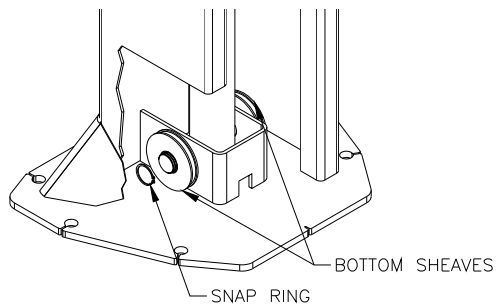

Fig 6-Lower Sheaves
- 17) To install the cables around the bottom sheaves, remove the snap rings holding the sheave in place and disassemble, **Fig 6**.